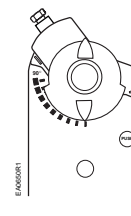

Figure 18.
- e. Place the position indicator to the "0" position on the outside scale. See Figure 18.